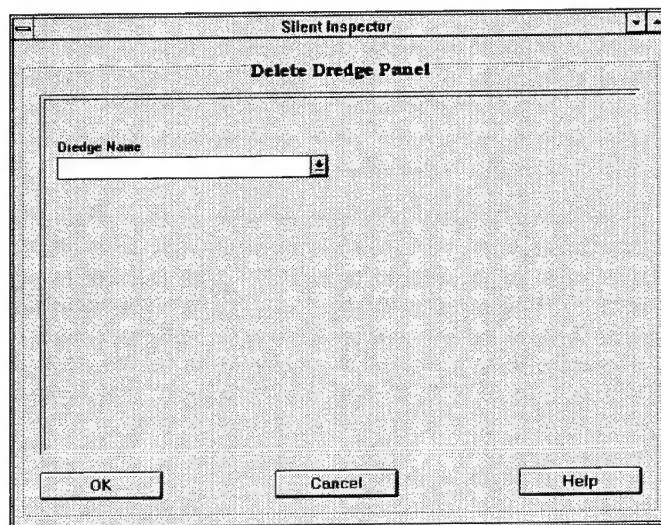

Figure 18. **Delete Dredge Panel** screen
- Click on **Delete** under the **Dredge** menu, and the **Delete Dredge Panel** screen (Figure 18) will appear.